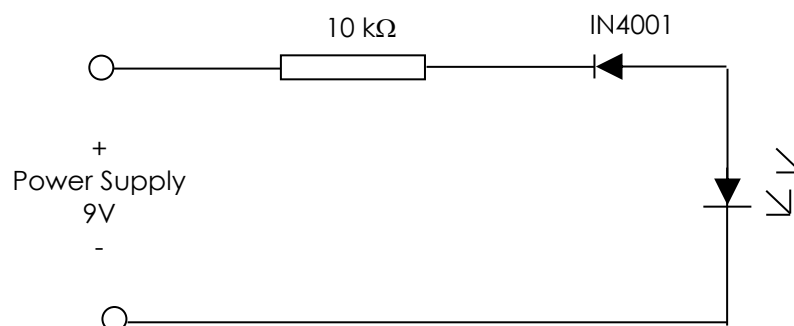

Figure 1.4
1. Connect the circuit as shown in figure below **Figure 1.4**.